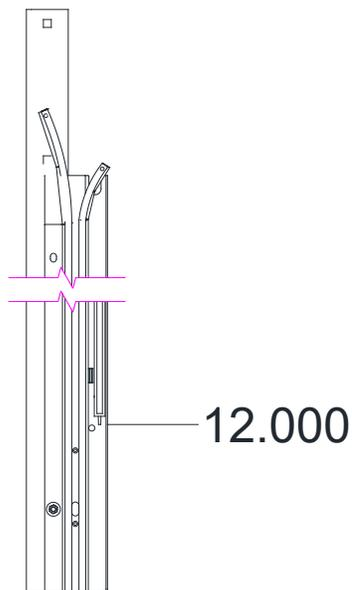

Figure 12
4. The bottom of each light curtain must be 12 inches above the ground. See **Figure 12**